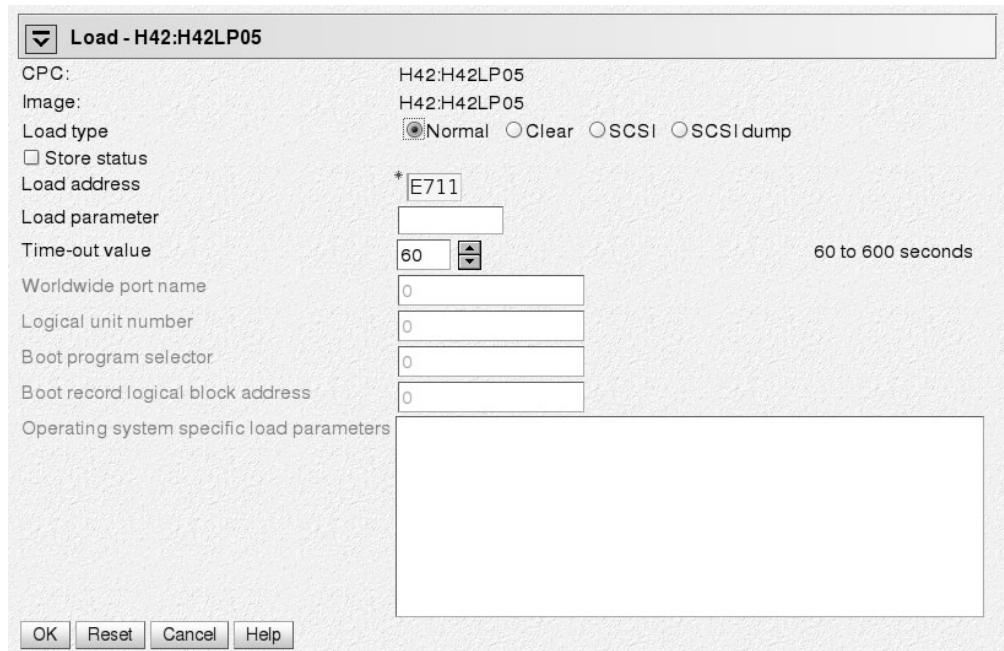

Figure 25. Load panel for booting from tape or DASD
- a. Select the load type **Normal** (see Figure 25 on page 100).
- a. Select load type **Normal** (see Figure 25).